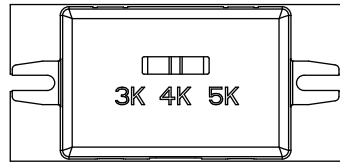

Figure 12
1. Slide the switch to select required CCT. (Figure 12)